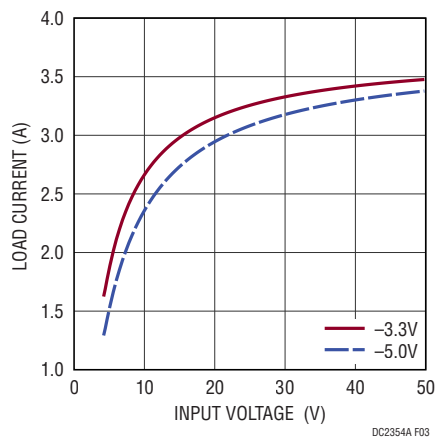

Figure 3. Output Current vs. Input Voltage Derating Charts
2. Turn on V_{OUT^-} of the circuit by inserting the shunt in header JP2 (RUN) into the ON position. The output voltage should be regulating. Measure V_{OUT^-} and it should measure $-5.0V \pm 2\%$. Vary the current load, which should not exceed 4A. Vary the input voltage from 3.5V to 55V, the V_{OUT^-} , it should measure $-5.0V \pm 2\%$. Maximum load current is function of input voltage and should be changed accordance to derating graphs on Figure 3.